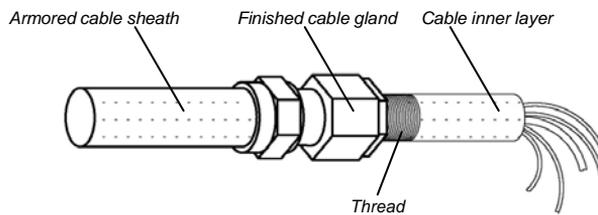

Fig.6.
b. As Fig. 6, installed Ex gland to armored cable, about the operation method of Ex gland, please reference the installation of Ex gland.